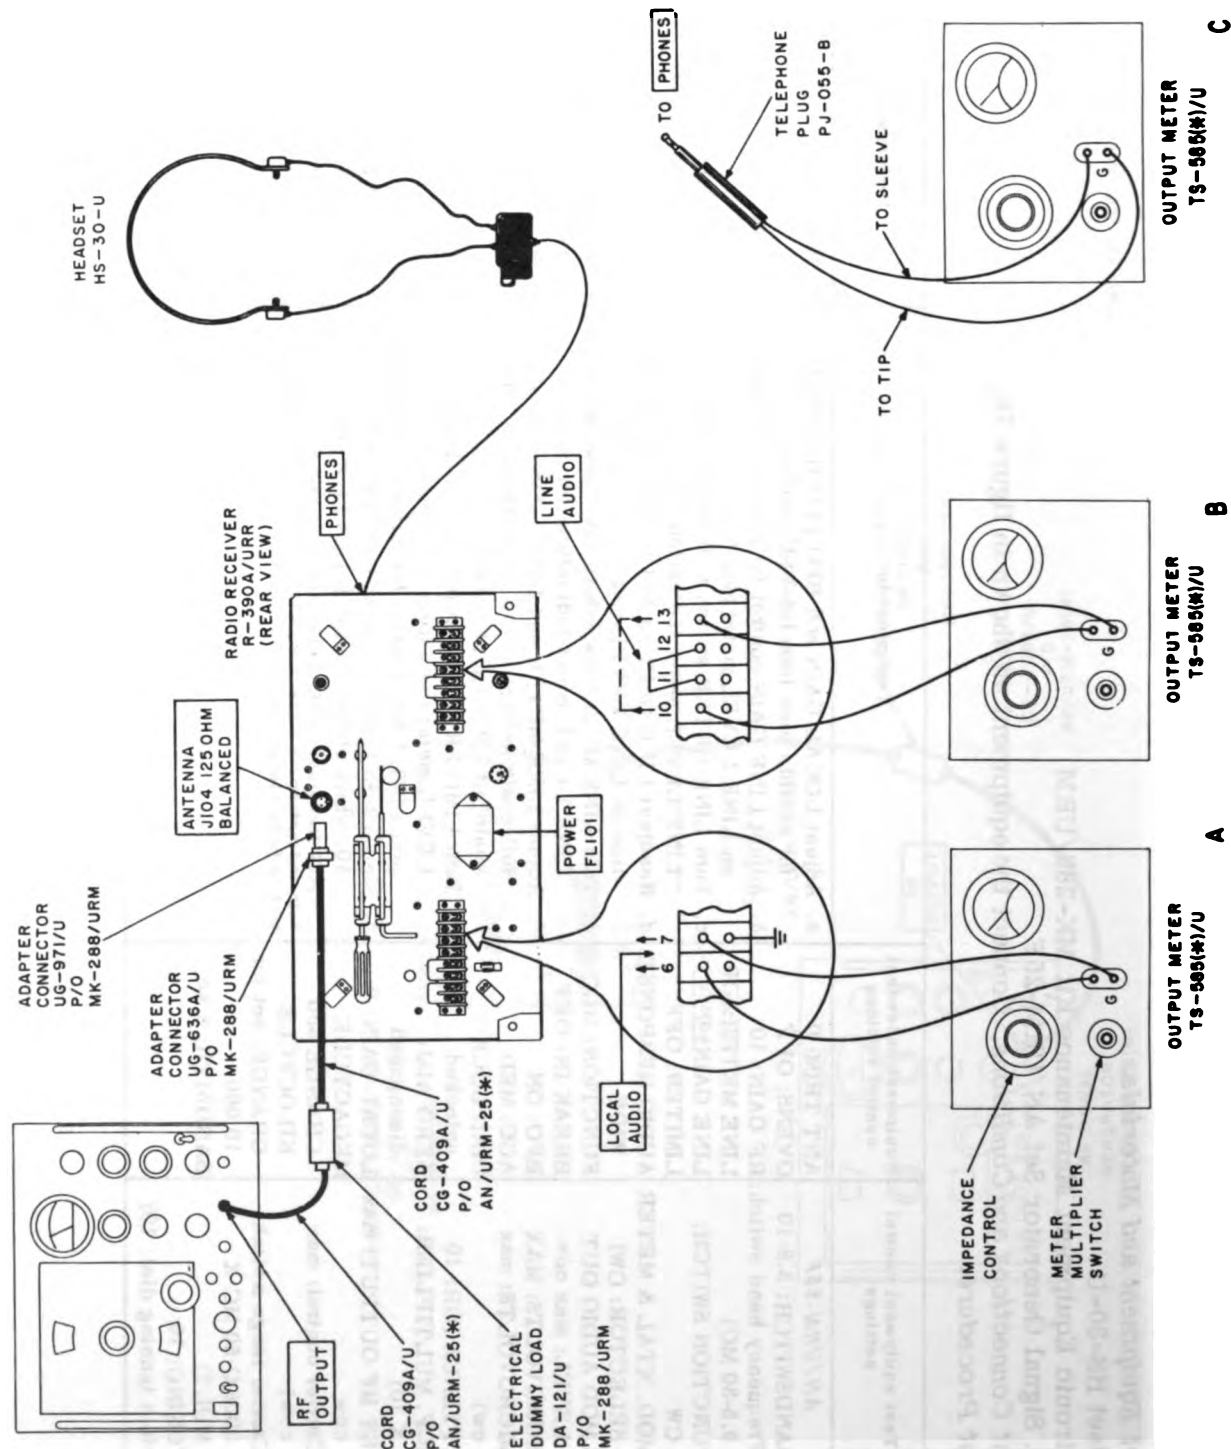

Figure 79.
(fig. 79)
b. Test Connections and Conditions. Connect the equipment as shown in A, figure 79.